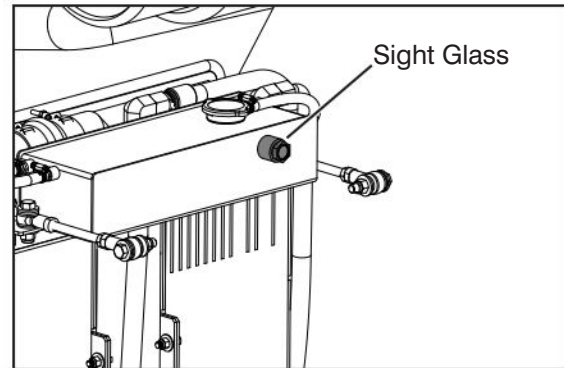

Figure 2-33 Sight Glass Location
4. Fill radiator completely through the reserve tank filler neck, until coolant is visible through the sight glass. See Figure 2-33.